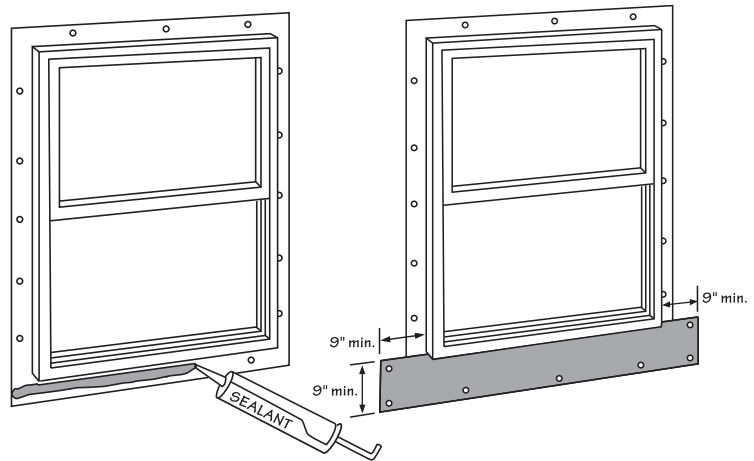

Figure 30.
- Apply a continuous bead of sealant to the nailing flange of the sill in a manner that covers the nails and nail slots. Apply a minimum of 9" (229mm) wide horizontal sill flashing level with the bottom edge of the existing window by pressing the flashing into the sealant bead at its top edge. Cut the sill flashing long enough to extend a minimum of 9" (229mm) beyond each jamb. Fasten the sill flashing at the bottom and side edges (Fig. 30).